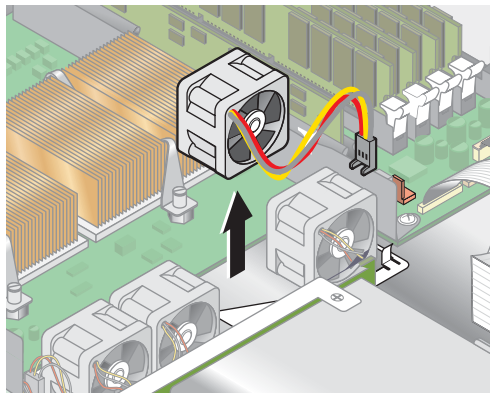

FIGURE 4-9 Removing a Cooling Fan
4. Remove the second processor fan from the right (see FIGURE 4-9):